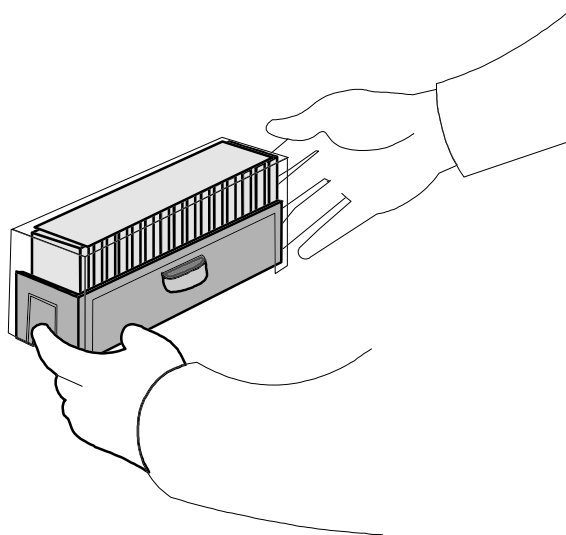

Figure 9. Removing the Magazine Dust Cover
- ☐ Remove the magazine cover. You can remove the cover by pressing the middle of both ends (where it is labeled PUSH) and lifting up (see Figure 9).